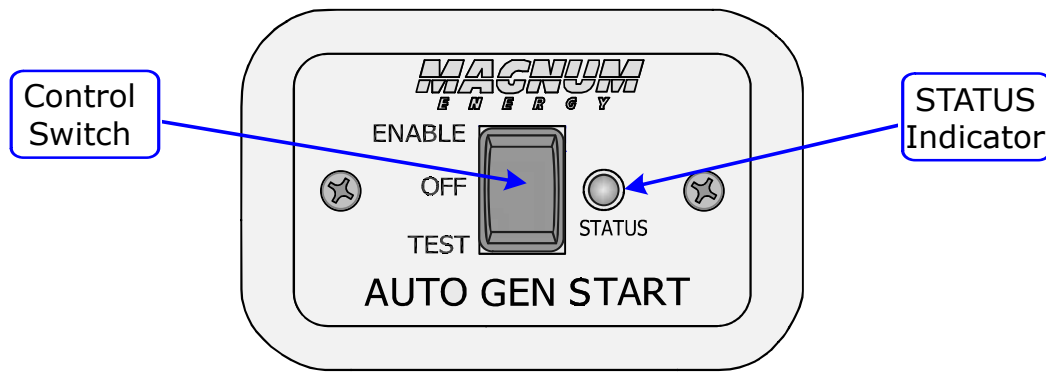

Figure 4-2, Remote Switch Controls and Indicators
b) Set the remote switch to the *TEST* position (Figure 4-2).
The AGS remote switch (see Figure 4-2) provides information and enables you to operate the controller. The remote switch receives its power from the controller through the communications cable, and comes on automatically when power is applied to the AGS controller. The remote switch provides an ENABLE position to activate the auto gen system, an OFF position to turn the auto gen system off, and a momentary TEST position that allows the auto gen system to be tested remotely. A STATUS indicator is also included to remotely view system status.